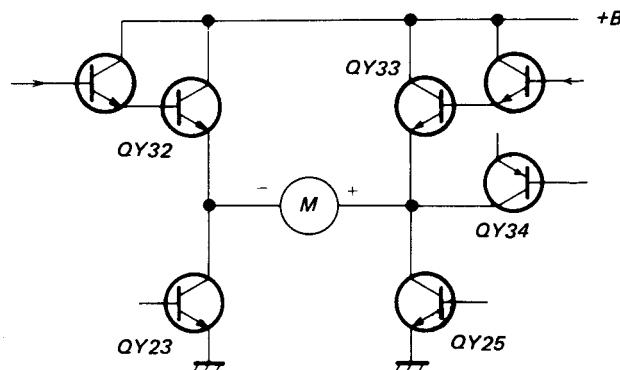

Fig. 3-62 Capstan Motor Drive Circuit
### **Slow Circuit (Fig. 3-62, 63)**
Braking and determines the tape stopping position. This delay output is obtained from Pin 9 (Q) of IC Y02 and differentiated by CY15, RY41 and positive pulses only are fed to Pin 8 (preset terminal) of IC Y05 through DY04 and causes Pin 13 (Q) to go to high level. Pin 13 (Q) output is fed to Pin 12 (A) of IC Y03 and generates pulses in Pin 9 of IC Y03 with width determined by CY05, RY26, and RY58. This is used as the brake pulse to apply reverse voltage on the motor and cause the motor to stop suddenly. The drive output from the Pin 6 of IC Y03 is fed to Pin 10 (clear terminal) of IC Y05 and prevents Pin 13 from going to high level and also prevents the generation of brake pulses while drive pulses are emitted even if there is an input to Pin 8 of IC Y05. The output ( $\bar{Q}$ ) of Pin 9 of IC Y03 is connected to Pin 3 of IC Y03 and prevents the generation of drive pulses while brake pulses are being generated. Simultaneous generation of drive pulses and brake pulses are prevented in this manner and thus prevents overcurrents in the drive output transistor. The drive circuit is constructed as shown in Fig. 3-62 and, during drive, QY33 and QY23 are turned on to cause the motor to turn in the correct direction. QY23 only is on during the period from the end of the drive pulse to the start of the brake pulse and no voltage is therefore impressed across the motor terminals.